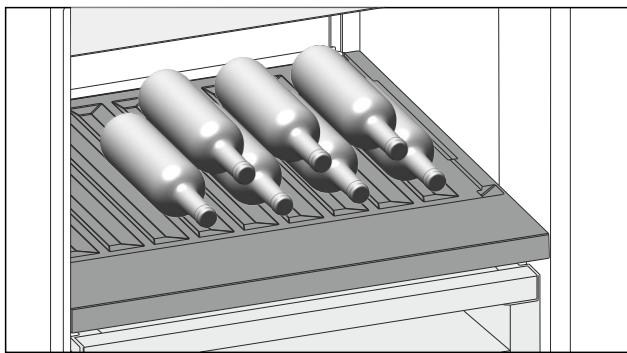

Fig. 143
- ▶ Place bottles in the back row with their bases against the back wall. (see Fig. 143)